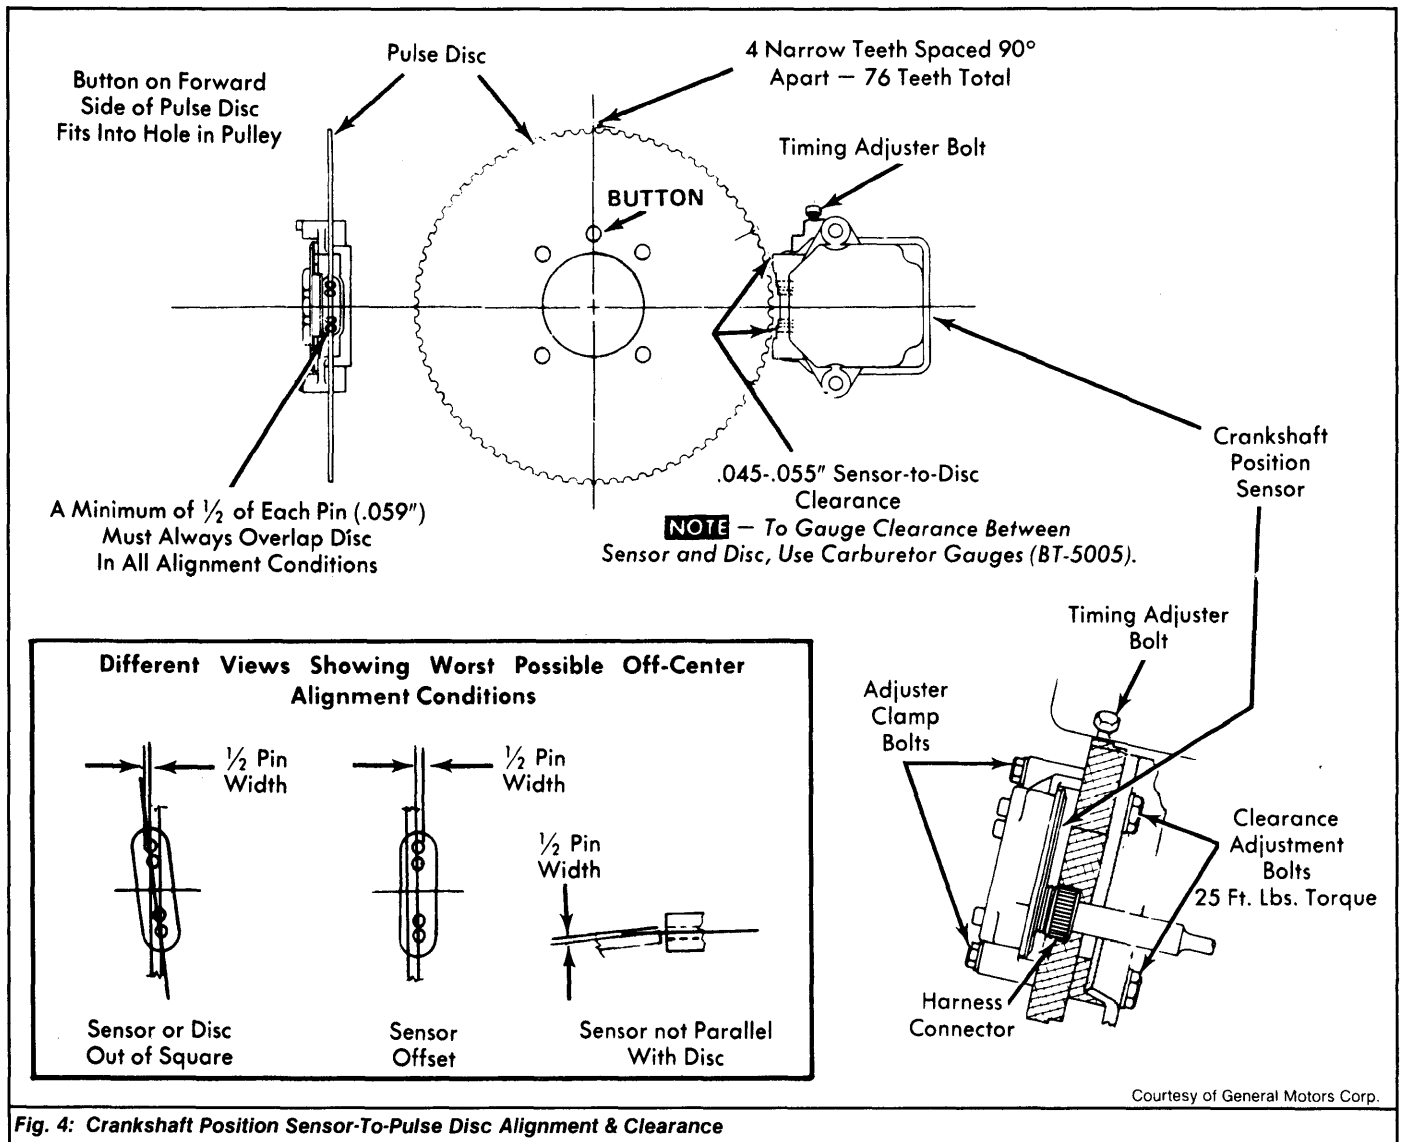

Fig. 4: Crankshaft Position Sensor-To-Pulse Disc Alignment & Clearance
- 6) If ignition timing is incorrect, stop engine and loosen timing adjuster bolts. See Fig. 4. Rotate timing adjuster bolt clockwise to advance timing or counterclockwise to retard timing.
Check crankshaft position sensor clearance between sensor and pulse disc. See Fig. 4. If clearance is incorrect, loosen adjustment bolts and reposition sensor. With clearance correctly set, check crankshaft sensor-to-pulse disc alignment and reference timing.
Removal & Installation — 1) Raise vehicle on hoist. Mark sensor position for installation reference. See Fig. 4. Unplug wiring harness connector from rear of sensor. Remove crankshaft position sensor timing adjuster bolts and sensor.